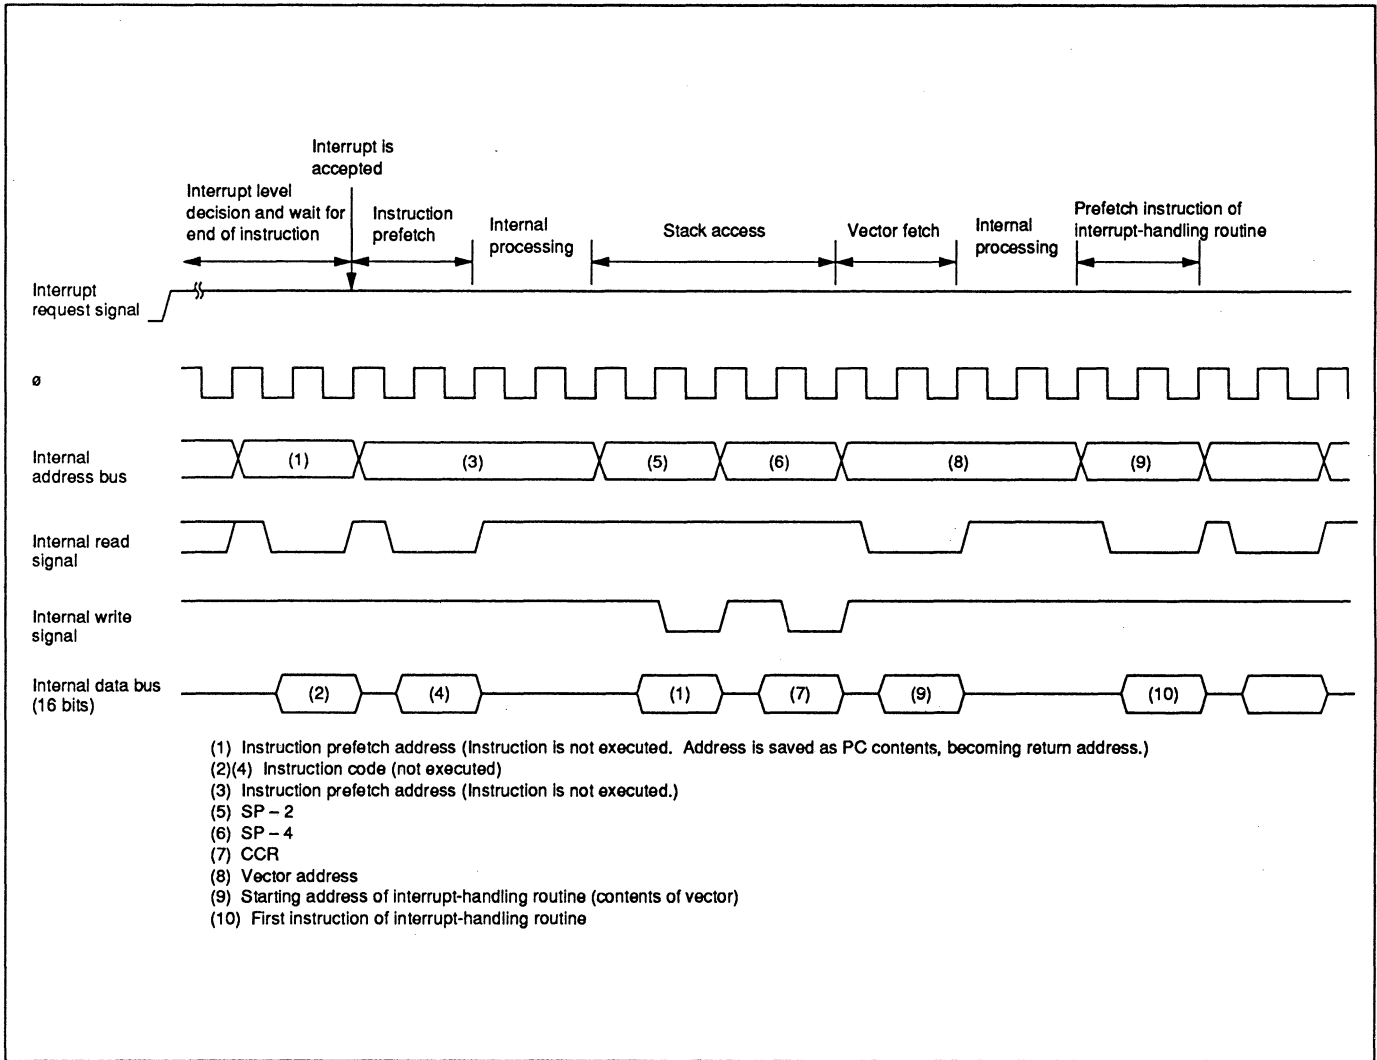

**Figure 3-5 Stack State after Completion of Interrupt Exception Handling**
- If the interrupt is accepted, after processing of the current instruction is completed, both PC and CCR are pushed onto the stack. The state of the stack at this time is shown in figure 3-5. The PC value pushed onto the stack is the address of the first instruction to be executed upon return from interrupt handling.